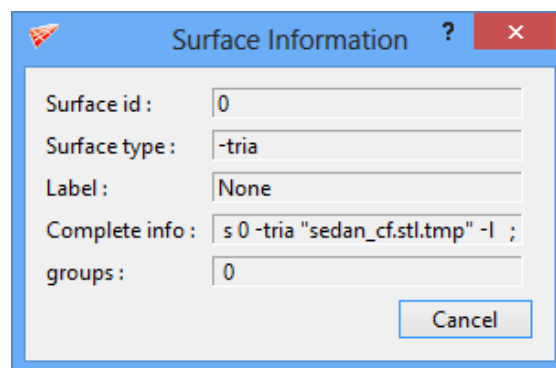

Figure 3.61: Surface information
- **Surface info** shows the information on surfaces such as id, type, label, position and group number to which it is grouped, as shown in Figure 3.61.